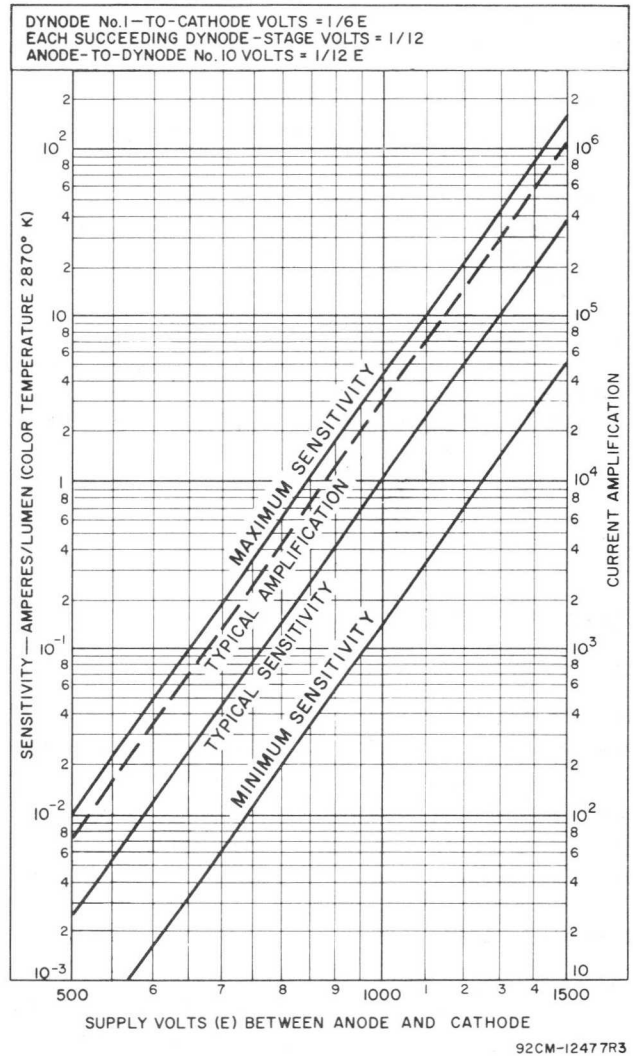
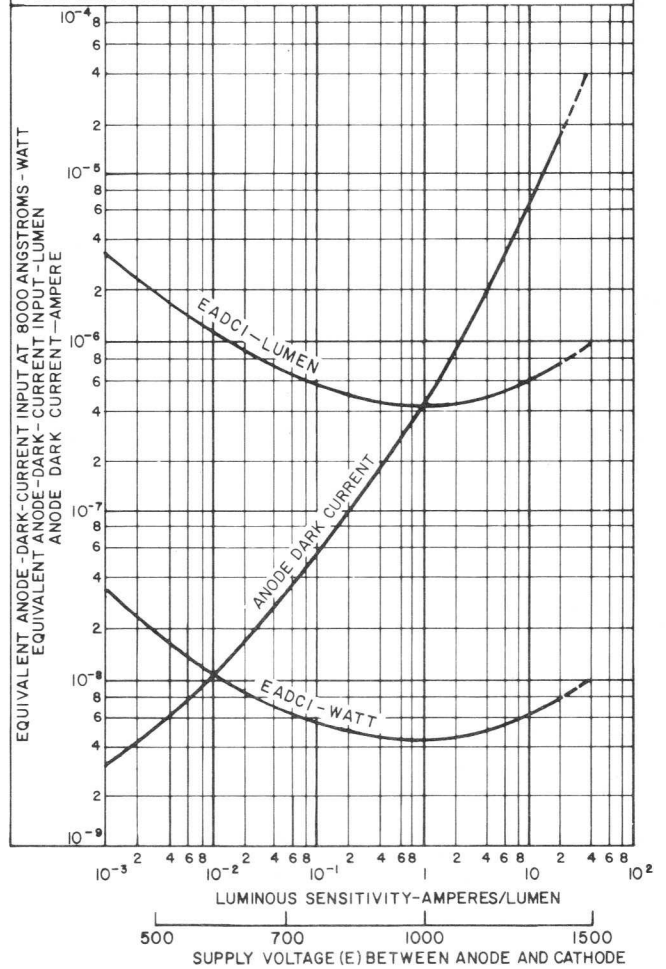

Figure 4
Figure 7
When the application utilizes continuous luminous excitation and dc anode current and it is desired to have a high ratio of signal output to dark current, it is recommended that the operating supply voltage (E) be determined with reference to the curve in **Figure 7** which shows the equivalent anode-dark-current input as a function of luminous sensitivity for the 7102, and the curves in **Figure 4** which show luminous sensitivity as a function of the supply voltage.